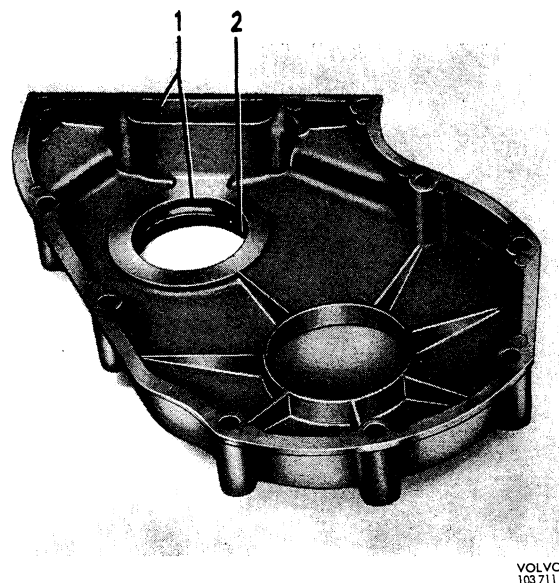

Fig. 2-35. Timing gear casing
4. Make sure that the gasket are in good condition and that the drain hole is open and clean inside the timing gear casing which is to be fitted, see Fig. 2-35.